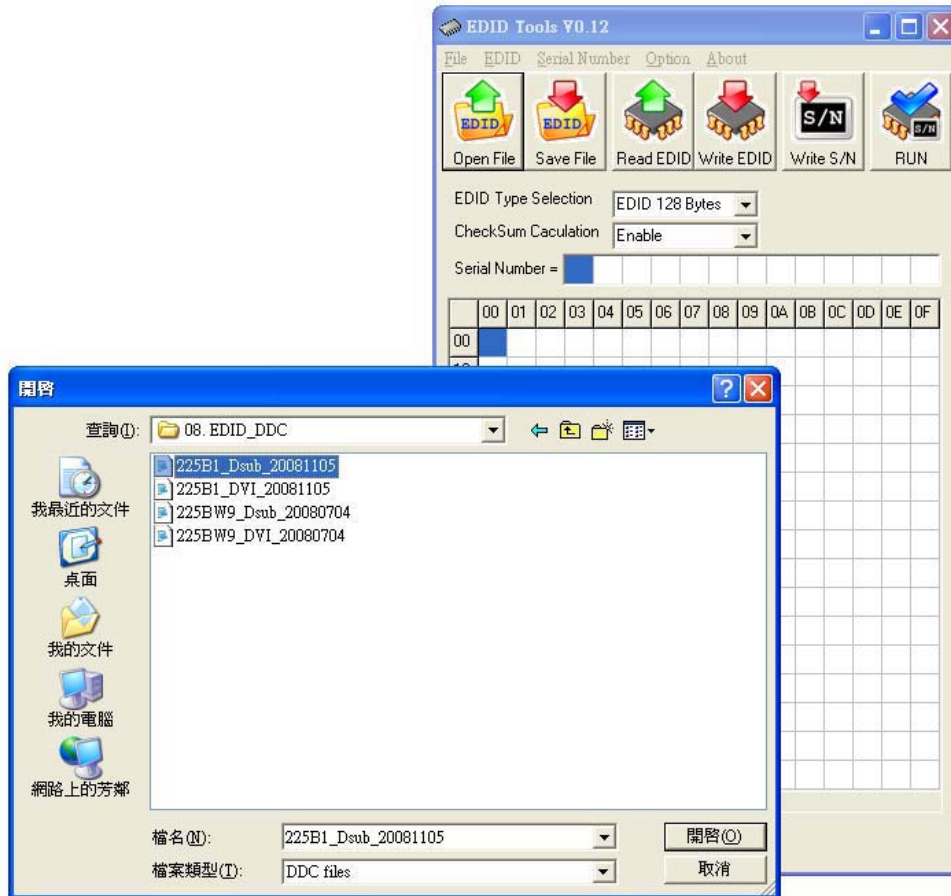

Fig.5
Step 2: Press “Open File” then choose LCD\_Analog.ddc or LCD\_DVI.ddc as shown in Fig. 5 .